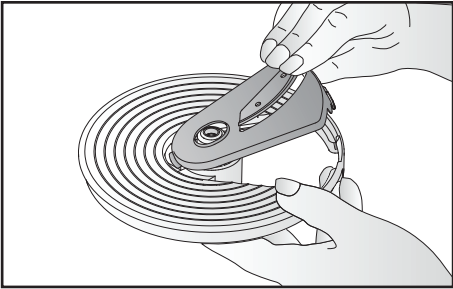

Fig. 9
- Fit the required blade, the slicing blade (P), julienne blade (O) or chip blade (Q) into the blade disc (R) so that the hole in the blade is in the centre of the disc (Fig. 9).